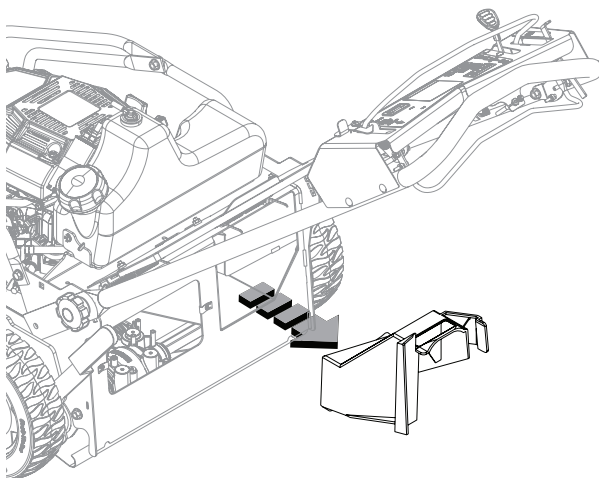

Figure 1-6. Remove Rear Discharge Plug
5. While holding the handle bar assembly in place, remove the rear discharge plug from the cutter deck to gain access to the lower handle bar mounting hole on the right side of the mower. See Figure 1-6.